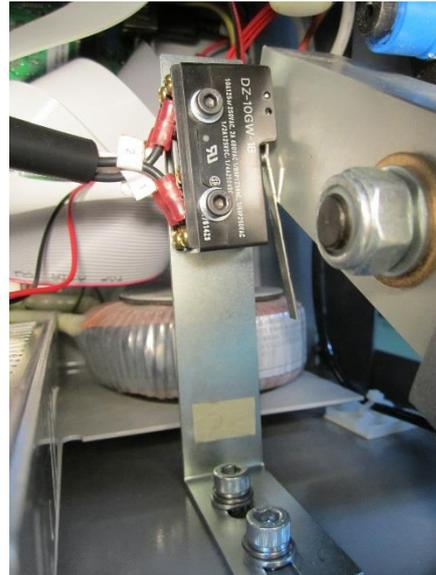

FIGURE-4. INSTALLATION OF THE PRESS ARM SWITCH ASSEMBLY
- CAREFULLY INSTALL THE NEW PRESS ARM SWITCH INTO THE BOTTOM OF THE CHASSIS AS SHOWN IN FIGURE-4.